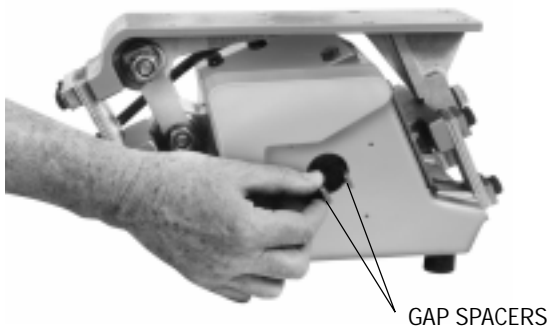

FIGURE 5
REFER TO PARTS LIST DRAWING AND FIGURES 5, 6, 7 & 8
1. Remove both nameplates and insert the two gap spacers (furnished with the unit) between the E-frame center leg and the two armature pole pieces (see Figures 5 & 6).